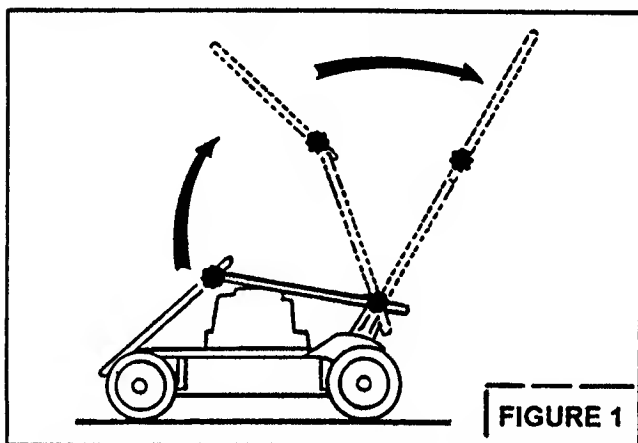

FIGURE 1
STEP 1: After removing unit from carton, loosen knobs and unfold handles as shown in Figure 1. Do this carefully to prevent cables from hanging up.